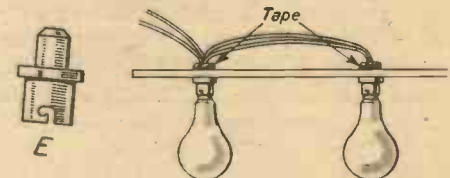

Fig. 4.—Details of the underside of the lid and the lamps.
At positions shown in Fig. 4, bore two holes of just sufficient size to take the tops of the kind of lamp-holder that finishes in a ¼in. constant-diameter cylinder. The tighter the tops are in the holes the better. Wire the holders in parallel and insert them in position as in Fig. 4 (E). The holders with their bulbs (100 watt pearl) can be adjusted a little by pushing up and down, which is handy to get maximum brilliancy. When the correct position is found the holders are locked by winding insulating tape round where the holder tops and wires enter the wood. If in the correct position the holder rings are tight up to the lid so much the better.
card, and screws into the end pieces secure the lid in position. No light must escape forward and if the top seam is doubtful a strip of velvet should be glued along the under side of the lid,  $\frac{1}{8}$  in. from the edge as in Fig. 4 (F). This will give all the baffling necessary.